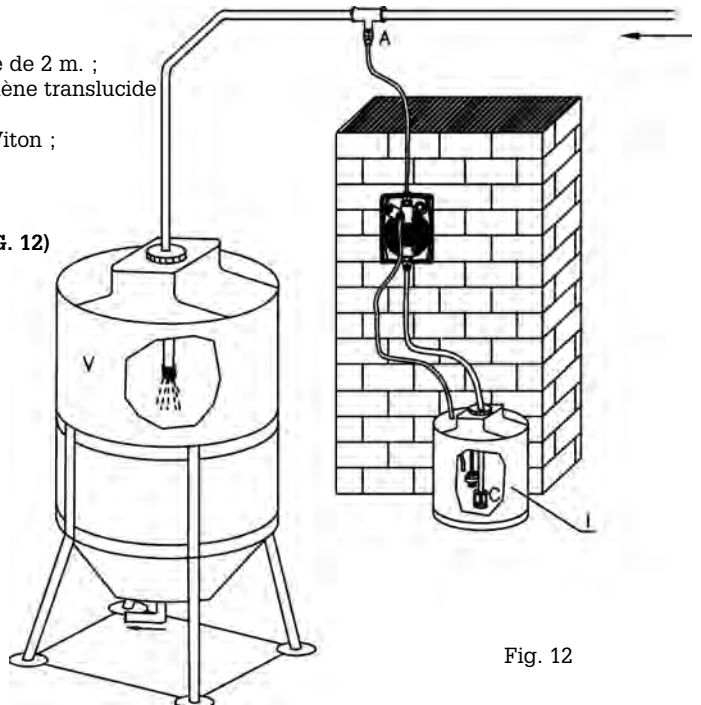

Fig. 12
6.3 – SCHEMA D'INSTALLATION TYPE (FIG. 12)